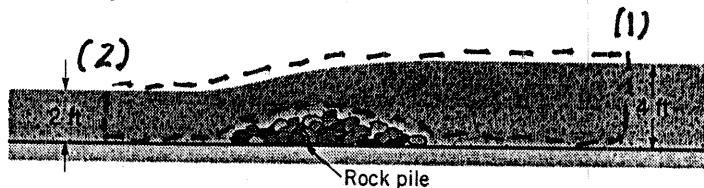

FIGURE P5.87
- 5.87 A 100-ft-wide river with a flowrate of 2400 ft³/s flows over a rock pile as shown in Fig. P5.87. Determine the direction of flow and the head loss associated with the flow across the rock pile.